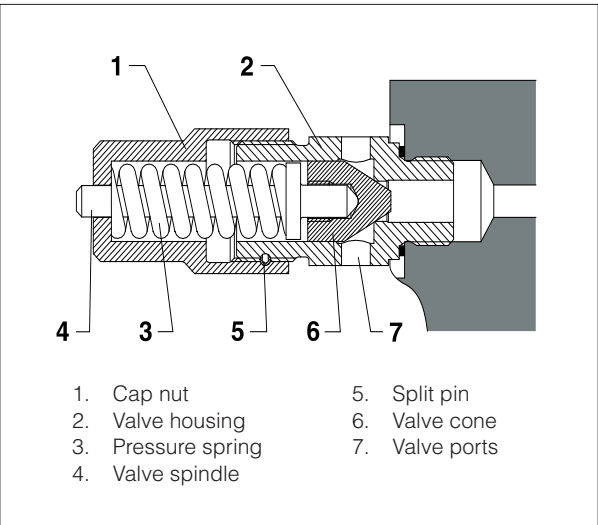

Fig 1. Safety valve
The setting of the opening pressure is stamped onto the cap nut (1), see fig 1.